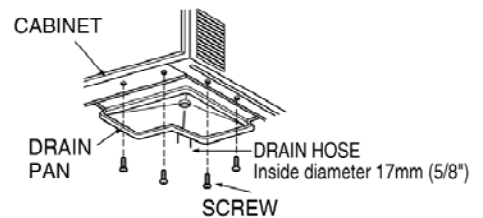

Figure 19
2. Install the drain pan over the corner of the cabinet where you removed the plug with 4 (or 2) screws. (See Fig.19)
3. Connect the drain hose to the outlet located at the bottom of the drain pan. You can purchase the drain hose or tubing locally to satisfy your particular needs. (Drain hose is not supplied). (See Fig.19)
4. Select the most appropriate connection from among the right figures (by considering the hole of the unit) to fit drain pan to your own unit. (See Fig.19)